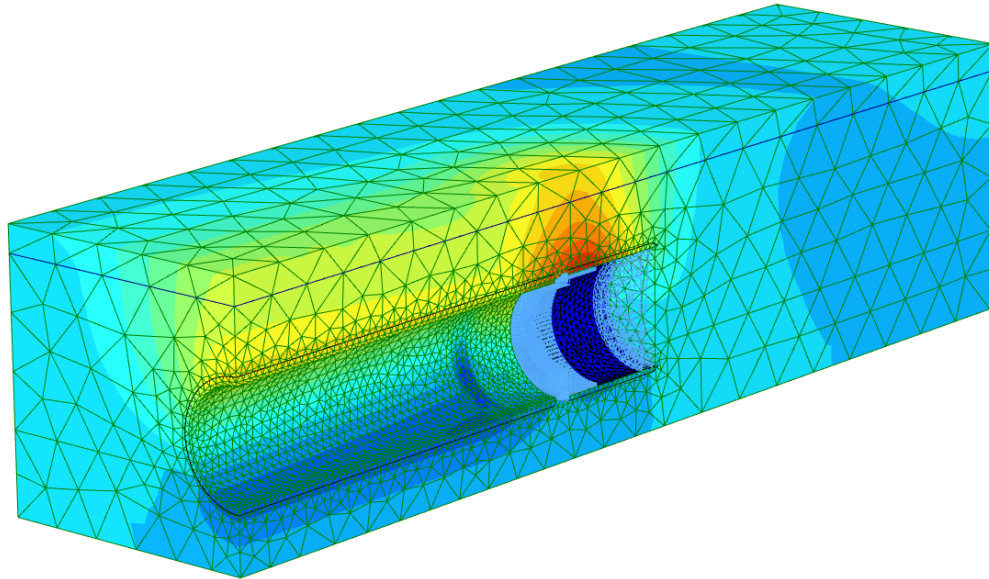

Figure 84: Total vertical displacements after the final phase $u_z \approx 3.1\text{cm}$
3. From the *Deformations* menu, select *Total displacements* and then u_z in order to see the total vertical displacements in the model as a shaded plot (Figure 84 (on page 110)).